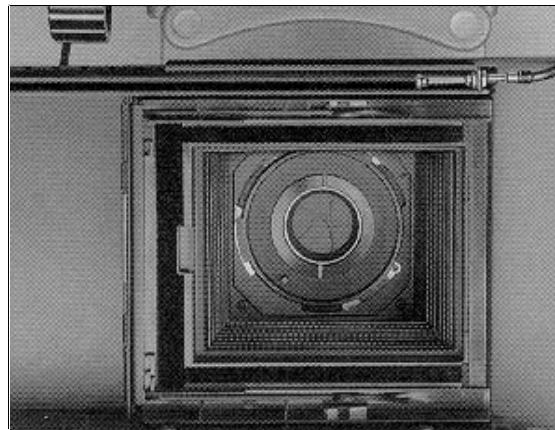
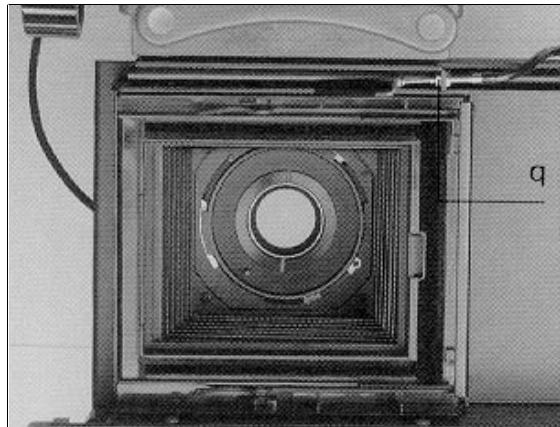

Figure 2-25. Shutter Fully Closed
Figure 2-26. Shutter Fully Open
- c. Look at the shutter from above; the shutter blades should be fully closed (figure 2-25). Now push the head all the way into the viewing position. The shutter blades should be fully open (figure 2-26). If they are not, adjust the plunger end (q) of the release until the shutter functions as described.